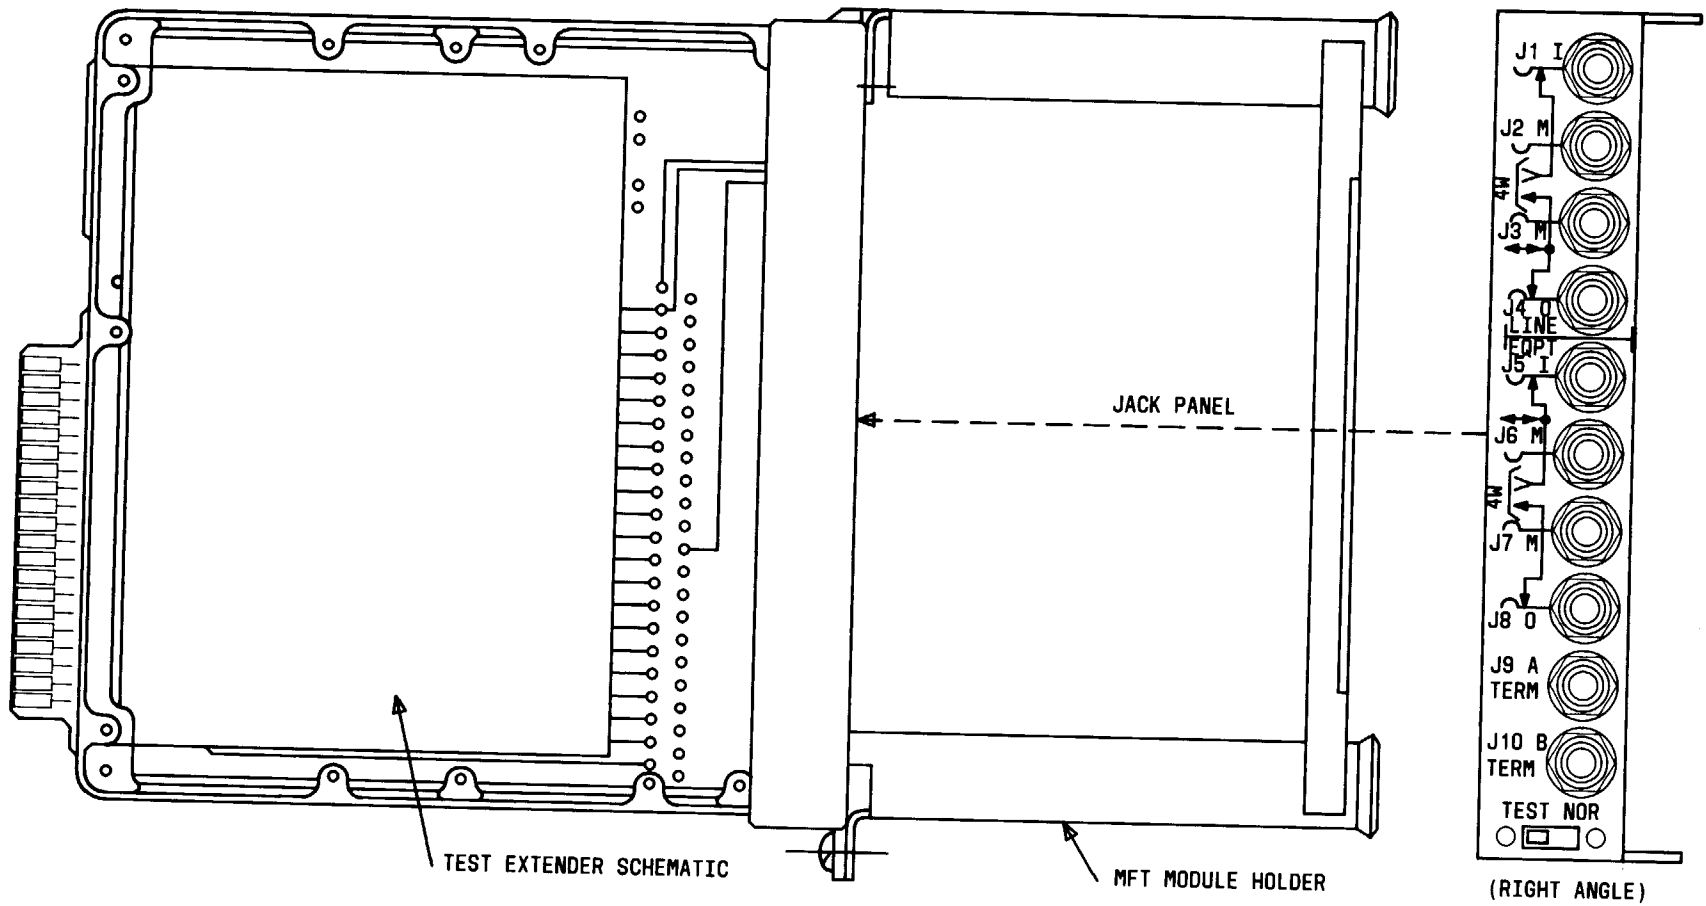

Fig. 4—J99400TA Test Extender
**4.01** A J99400TA Test Extender assembly (Fig. 4) facilitates the testing associated with all the MFT modules and may be ordered separately. This test extender provides for full extension of a powered MFT module outside the housing boundaries. The feature permits total access to adjustments on the MFT module under test as well as the adjustments on the test extender itself. A functional schematic decal of jack and switch connections is provided on the wiring side of the printed wiring board assembly. This functional schematic should simplify the using of the test extender. The test extender is intended for use with the J99400 Housing assemblies but can be used on any MFT shelf. Both front covers of the J99400A housing assembly should be removed when using this test extender.